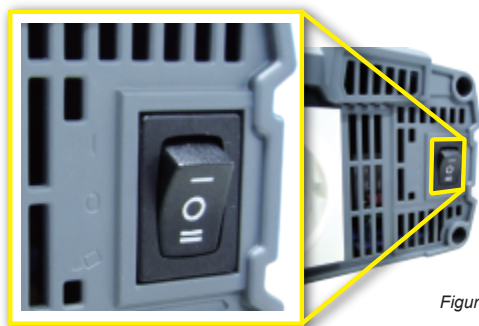

Figure 4. SP series remote position
- ⑦ Phone Jack Connector :
1. Before connection, please make sure to switch the inverter to REMOTE mode. (For SP series) (Fig.4)